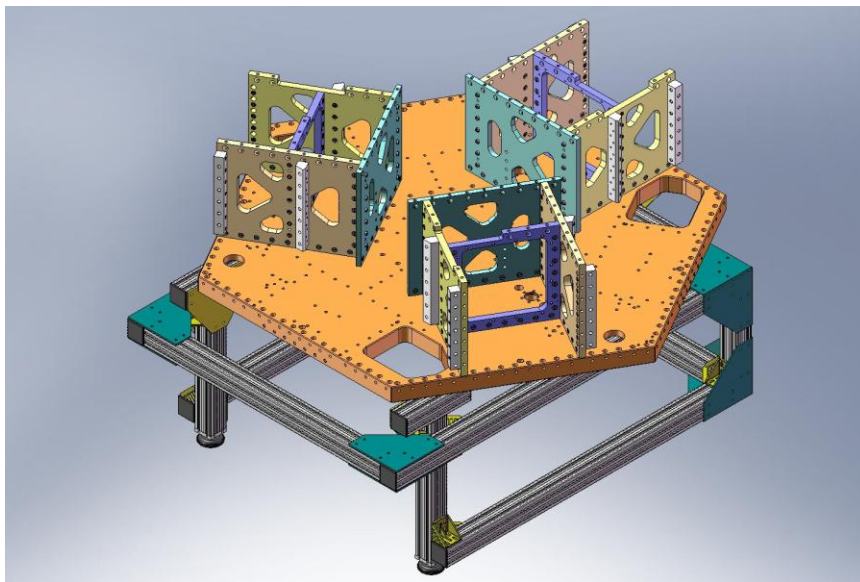

Figure 2.44. Stage 1 Floor must be rotated 60 degrees, to allow access for the Pitchfork Assembly mounting screws.
- Torque all (102) screws to final spec, in the following order:
- Lift the **Stage 1 Floor** and rotate it 60 degrees, as shown in Figure 2.44. This will allow access for bolting on the **Pitchfork Assemblies** (D071423), later in the procedure.